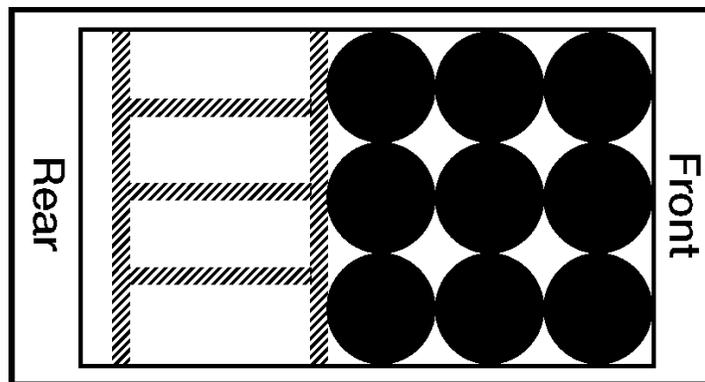
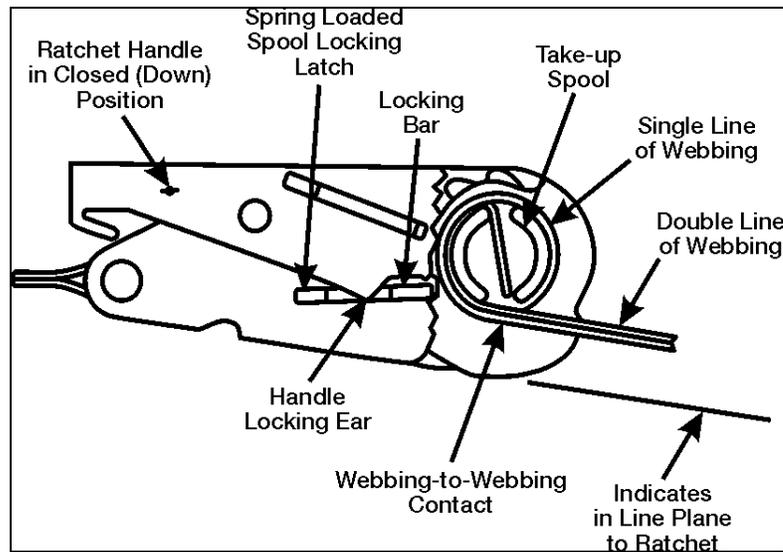

Figure 3-54. Blocking and Bracing Sample
Figure 3-55a. Web-to-Web Contact
- a. Block and brace load as needed (see Figure 3-54).
- (1) Ensure all strap hooks are completely engaged and safety latches are completely closed around tiedown anchor point.
- (2) Ensure that strap is tensioned to form at least 1-1/2 turns on the takeup spool. This is accomplished after web-to-web contact has been made on the takeup spool (see Figure 3-55a). To prevent movement of cargo, each tiedown must be tightened until about equal tension is applied throughout the tiedown arrangement.